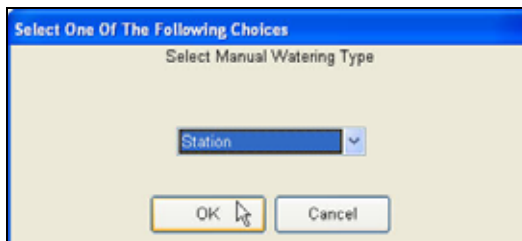

Figure 7.1.2
- Using the **Manual** key, Select Manual Watering Type / Station. Click **OK** (Figure 7.1.2)